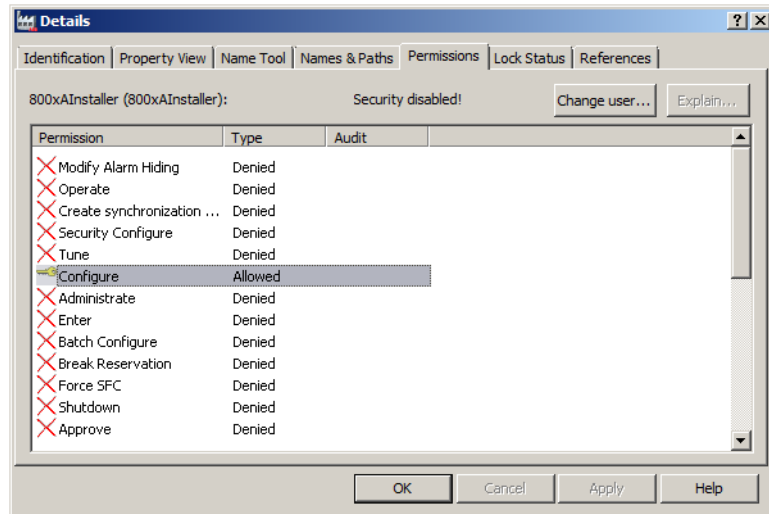

Figure 58. Object Properties Dialog Box - Permissions Tab
3. A dialog window opens, see Figure 58. Select the **Permissions** tab.